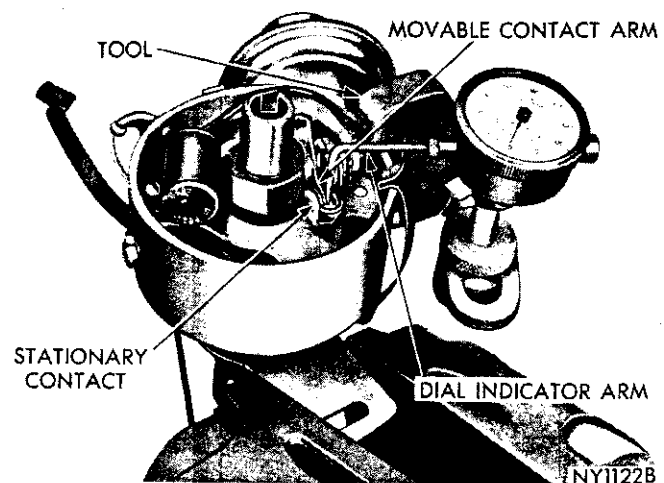

Fig. 8—Adjusting Contact Clearance with Indicator
(1) Loosen the terminal screw nut, and remove primary lead and condenser lead.
(2) Remove the stationary contact lock screw and remove the old contact set.
(3) Install a new contact set; the sleeve at one end of the adjustable bracket fits over and pivots on the upper contact plate mounting pin.
(4) Connect the condenser and primary leads.
(5) Align the contacts, if necessary, by bending the stationary contact bracket only. **Never bend** the movable contact arm to obtain alignment.
(6) After aligning the contacts, adjust contact clearance to "Specifications," using dial indicator (Fig. 8). Recheck the contact arm spring tension.
(7) Test the dwell angle to show proper degree of closure. See Paragraph, "Distributor Contact Dwell." The lock screw should be loosened just enough so that the stationary contact bracket can be moved with a slight drag; otherwise, it will be difficult to set the contacts accurately. After setting the contacts to the correct gap, tighten the stationary bracket lock screw.